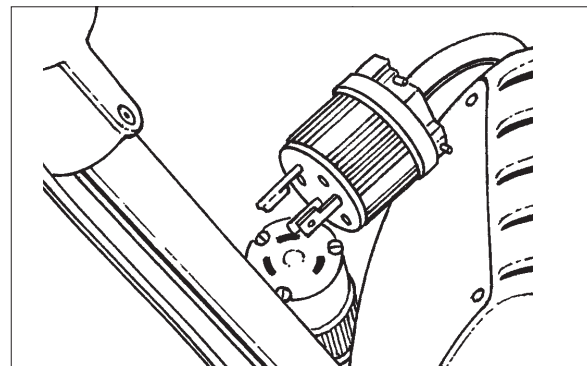

Figure 7
5. Disconnect the motor pigtail from the handle pigtail. (See Figure 7)